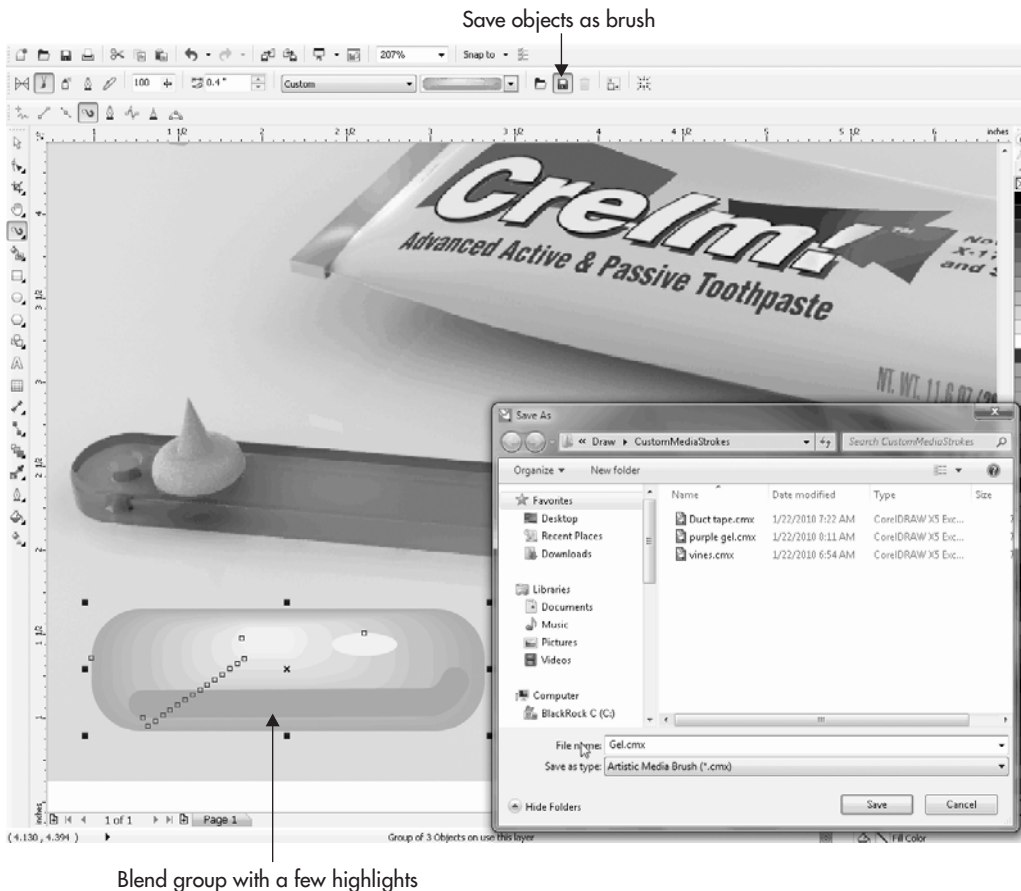

FIGURE 10-4 The easiest part of building a custom brush is saving it.
4. Click the Save icon; save the stroke to whichever folder CorelDRAW offers (to make it easy to find later), give the stroke a name, and then click Save, as shown in Figure 10-4. Brush objects are saved using Corel's standard presentation file format (CMX). The next time you choose the Artistic media tool's Brush, a thumbnail preview of your custom brush is at the top of the drop-down list.